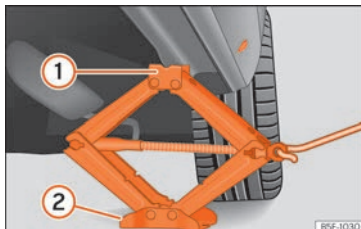

Fig. 79 Crossbar: mounting the jack on the vehicle.
- Turn the jack* crank handle, located below the strut support point, to raise it until the tab ① » **Fig. 79** is below the housing provided.
- Align the jack* so that tab ① "grips" onto the housing provided on the strut and the mobile base ② is resting on the ground. The base plate ② should fall vertically with respect to the support point ①.